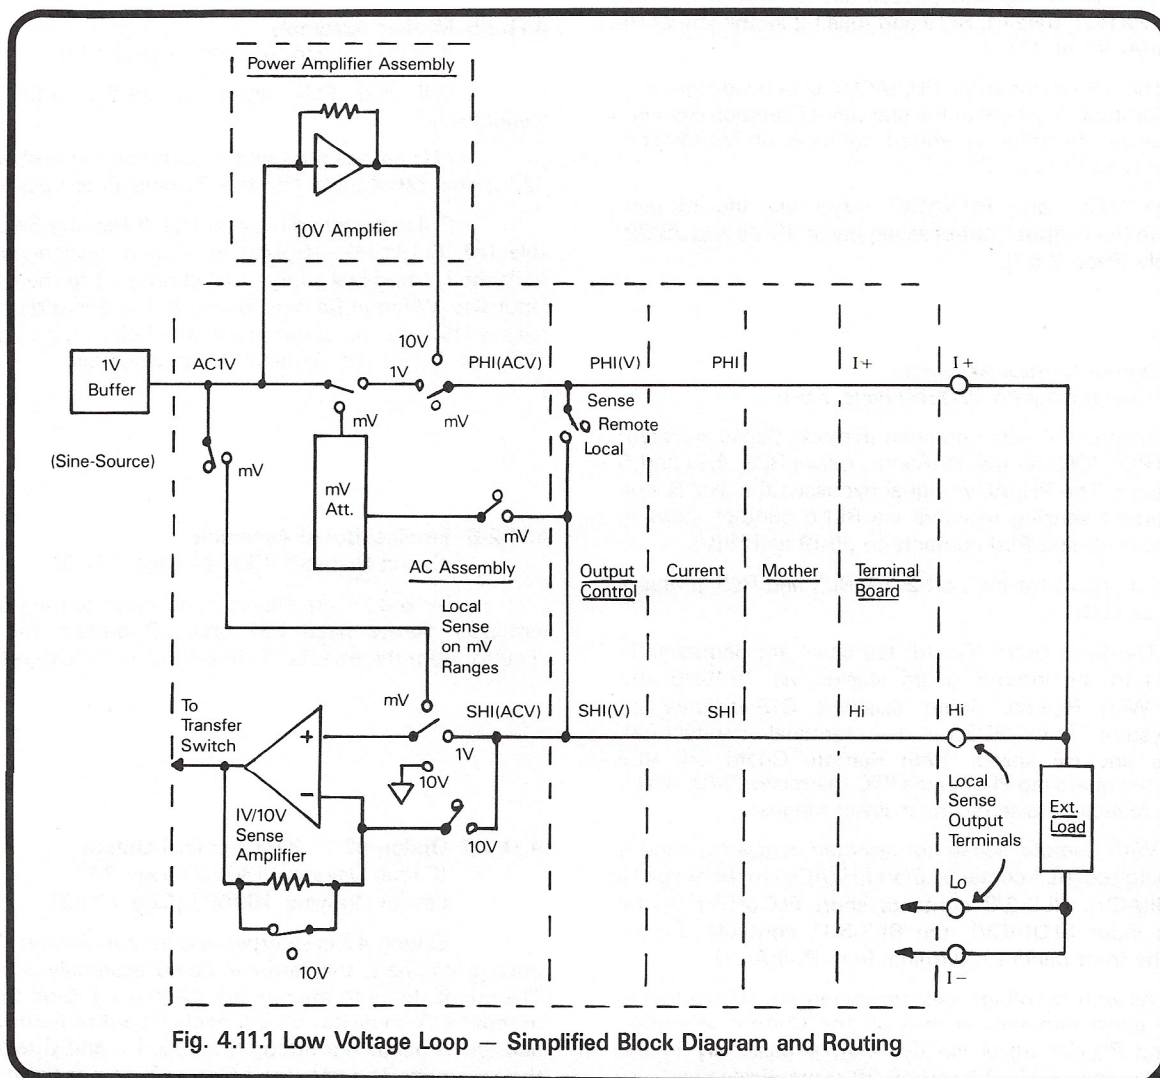

Fig. 4.11.1 Low Voltage Loop – Simplified Block Diagram and Routing
A simplified block diagram of the low voltage loop and routing appears in Fig. 4.11.1.
The filtered sense voltage is fed into the Mother assembly between J26-2 (HI) and J26-5 (LO). (No external sensing is provided for the millivolt ranges. See para 4.11.5 and Fig. 4.11.1 for the local sensing arrangement.)